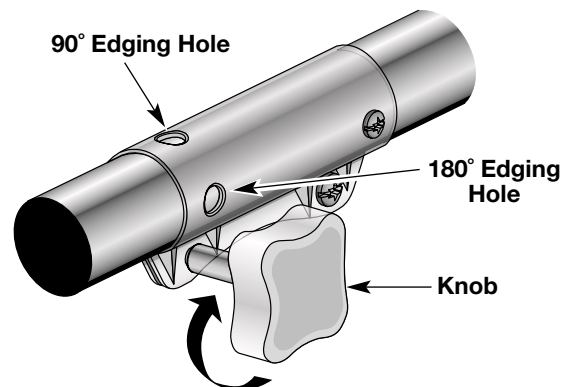

Fig. 9
3. Turn the knob clockwise to tighten (Fig. 9).
For edging when using the line head cutting attachment with Click-Link® models, lock the release button of the cutting attachment into the **90° edging hole** or the **180° edging hole**(Fig. 9). The edger add-on should be installed with the release button in the **primary hole**.